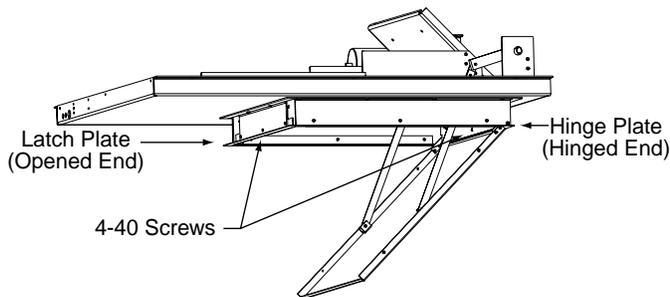

Figure 2
- ⑤ Remove three 4-40 Philips flat head screws in door trim frame at both the hinged and opened ends of Revelation door (see Fig. 2).